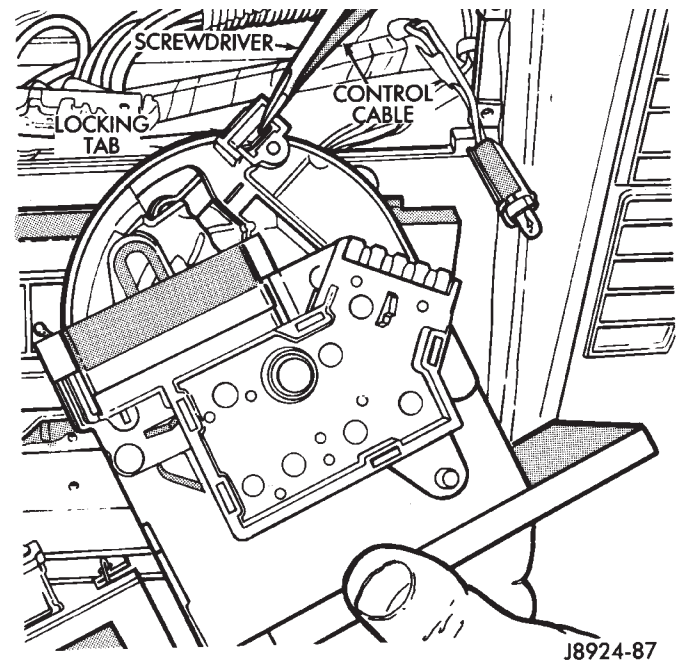

Fig. 7 Control Cable Locking Tab
(8) Remove the control cable locking tab by using a screwdriver to release the tab (Fig. 7).